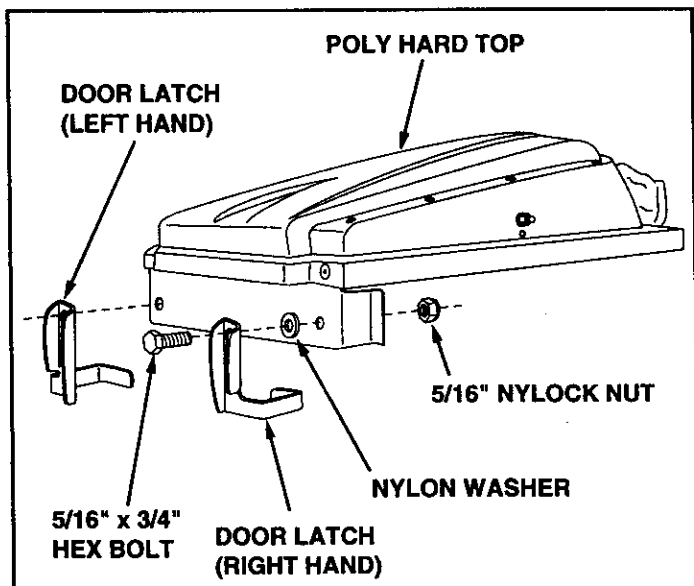

FIGURE 17
- Assemble the right hand and left hand door latches to the back of the hard top using two 5/16" x 3/4" hex bolts, nylon washers and 5/16" nylock nuts. Place the nylon washer beneath the door latch. Tighten so that the latch is snug but will still rotate. See figure 17.